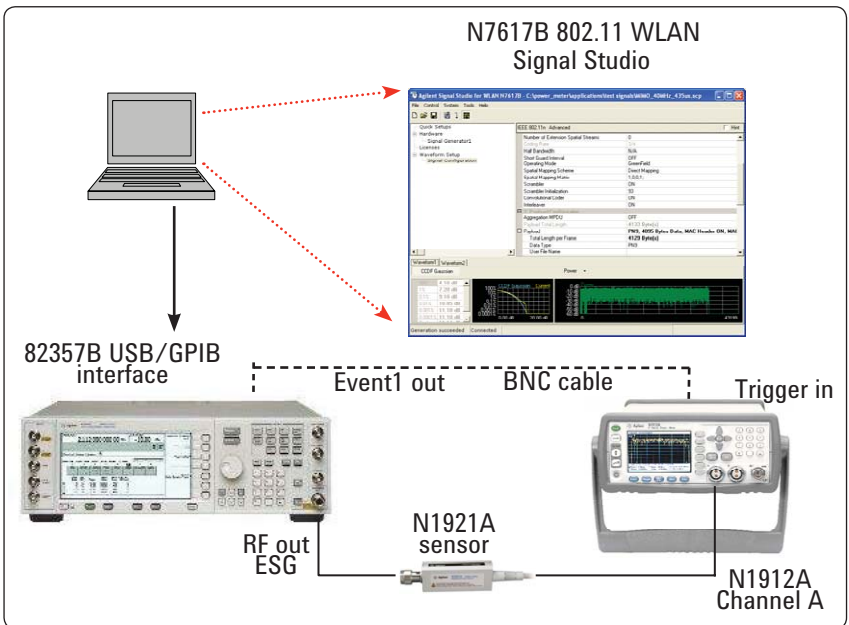

Figure 13. MIMO measurement setup using P-Series and ESG
3. Connect the P-Series power meter and sensor as shown in Figure 13 on page 11.